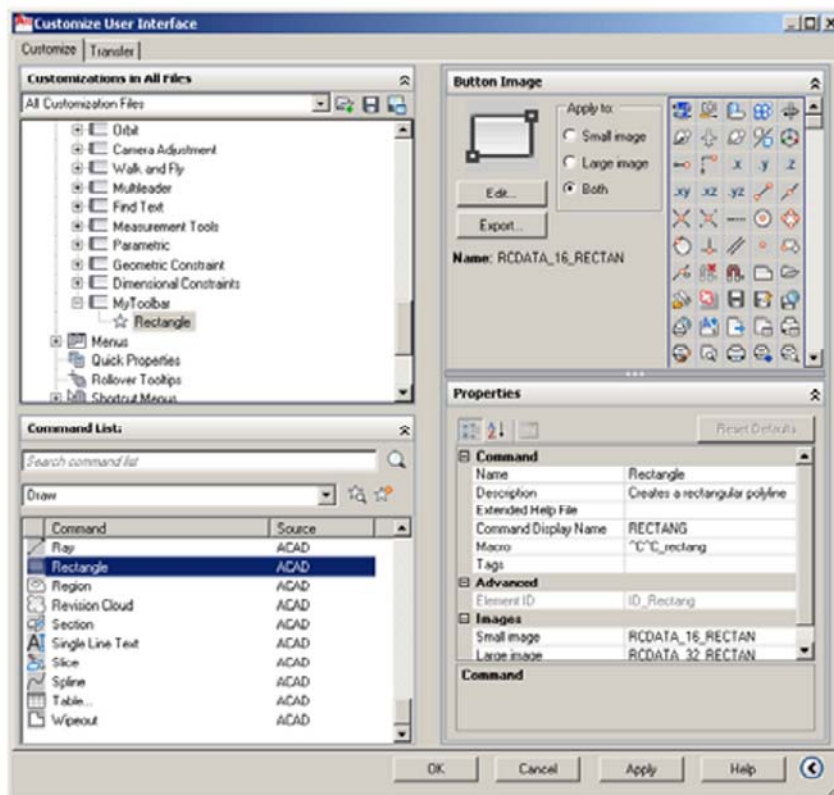

Figure 14.20 – Toolbar modification
- 2) On the bottom left begin selecting the commands you want your new toolbar to have (you can filter the commands to find them easier), and drag them into the new toolbar name on the upper left. As soon as you begin doing this, a Toolbar Preview and Button Image category will appear on the right-hand side as seen in Figure 14.20 when “rectangle” was added as the first command.